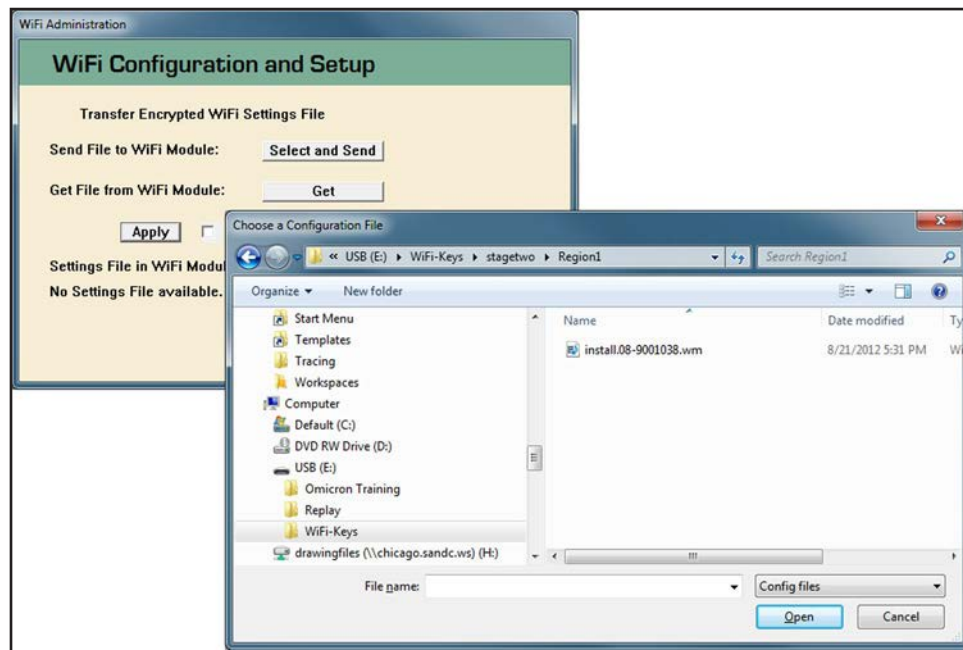

Figure 77. The Transfer Encrypted Wi-Fi Settings File dialog box.
- STEP 5.** Click on the **Select and Send** button and browse to the required configuration file. For the example shown in Figure 77, the file is install.08-901038.wm. Select the file and click the **Open** button to begin the transfer. The control key only changes the **Send** button to “Select and Send” if there are multiple firmware files in the active LinkStart directory. See Figure 77.